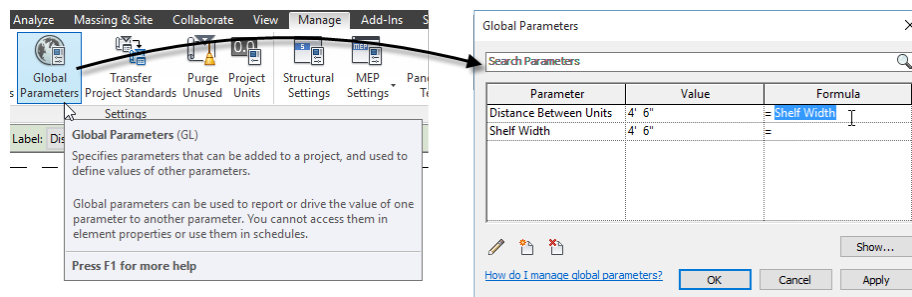

Figure 49
10. Click OK to finish (see Figure 49).